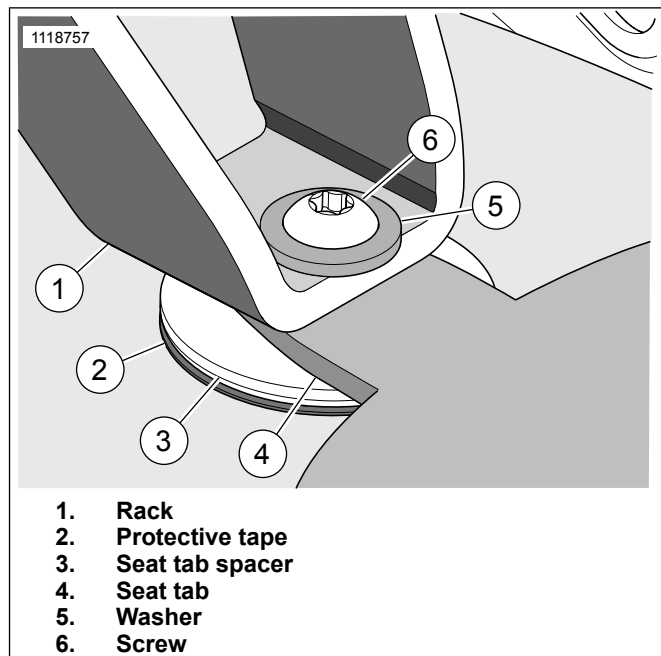
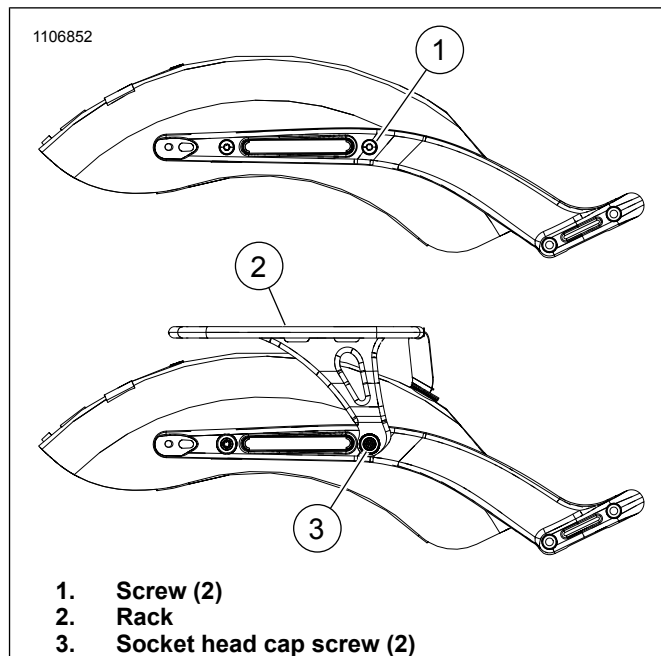

Figure 3. Hardware Installation
Figure 4. Kit 50300120
6. See Figure 3. Place protective tape (2) on top of fender.
10. See Figure 4. Remove screws (1) from fender.
a. Position rack (2) on fender.
b. See Figure 3. Align hole in rack (1) with hole in seat tab (4).
c. Loosely install washer (5) and screw (6).
d. See Figure 4. Align holes in side plate of rack with fender.
e. Loosely install both socket head cap screw (3) to hold rack in position
f. Remove one socket head cap screw (3) and apply threadlocker.